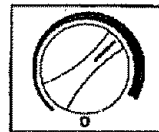

Fig. 15
- When maximum cooling is achieved, turn back the temperature control knob setting to the 2 o'clock position on the graduated blue control dial. See fig.15.